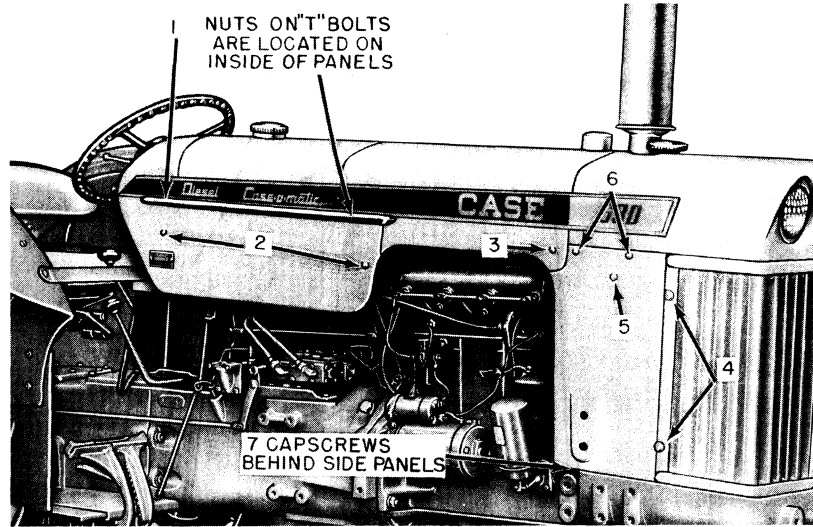

Fig. A-21 Removing Sheet Metal
4. Remove “Phillip” screws as shown in Fig. A-21, then remove hood and both side panels from fuel tank. Side panels are removed to provide easier accessibility to other parts which have to be removed.